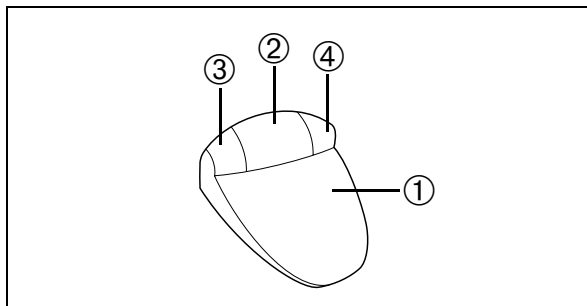
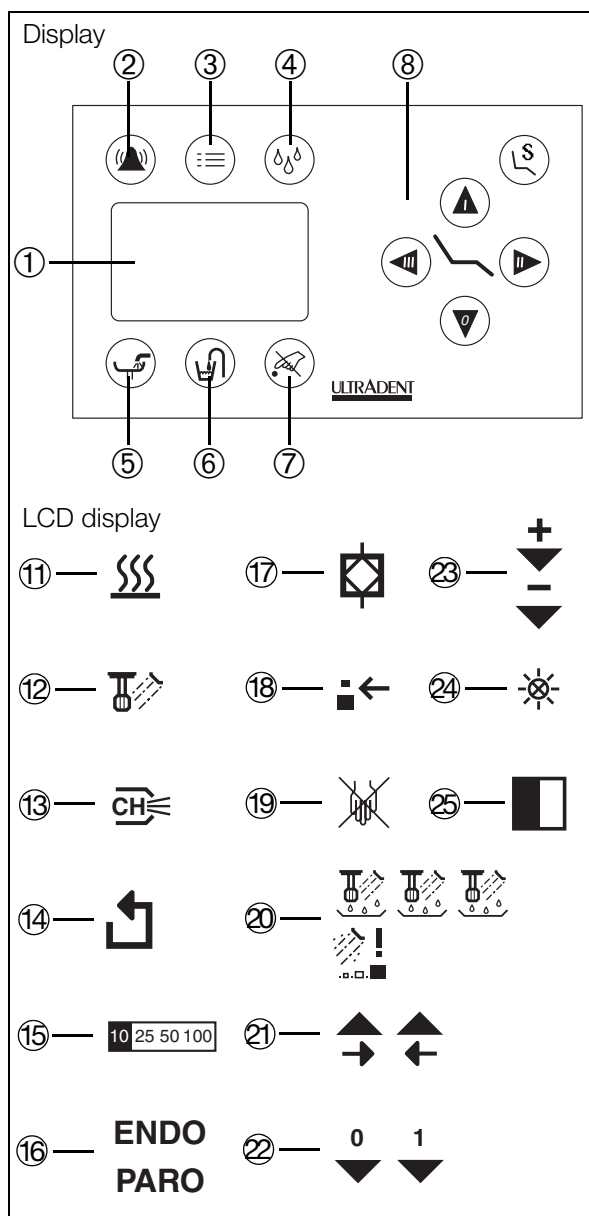

Fig. 53
Fig. 54
- Briefly tap the button ③ (Fig. 53) and repeat if necessary until the display ⑩ (Fig. 54) goes out.
The ⑩ (Fig. 54) ENDO/PARO setting influences the output power of the handpiece, and must be set precisely in line with the tips used.